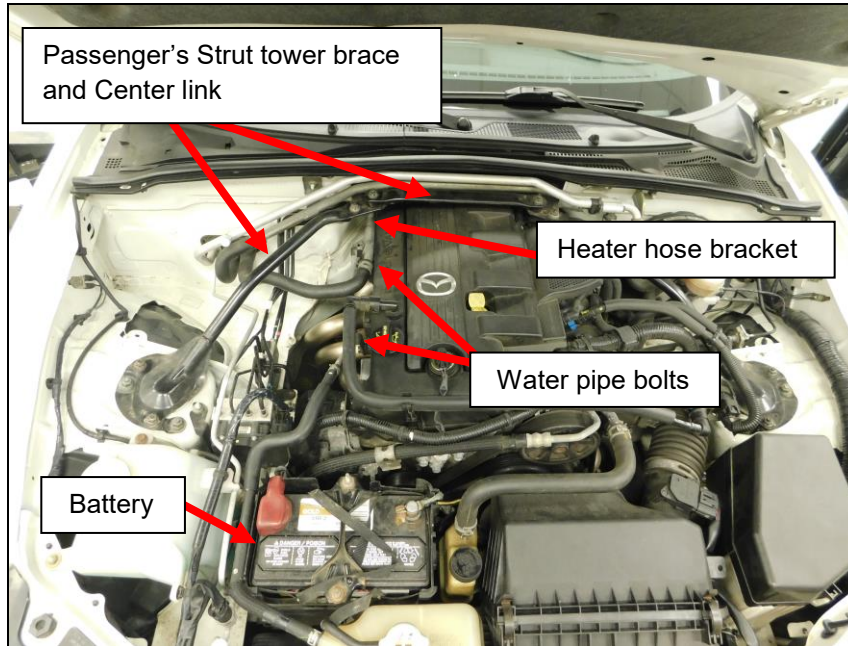

Figure. 1
5. Remove the center link and the passenger's side section of the strut tower brace (**Figure 1**).